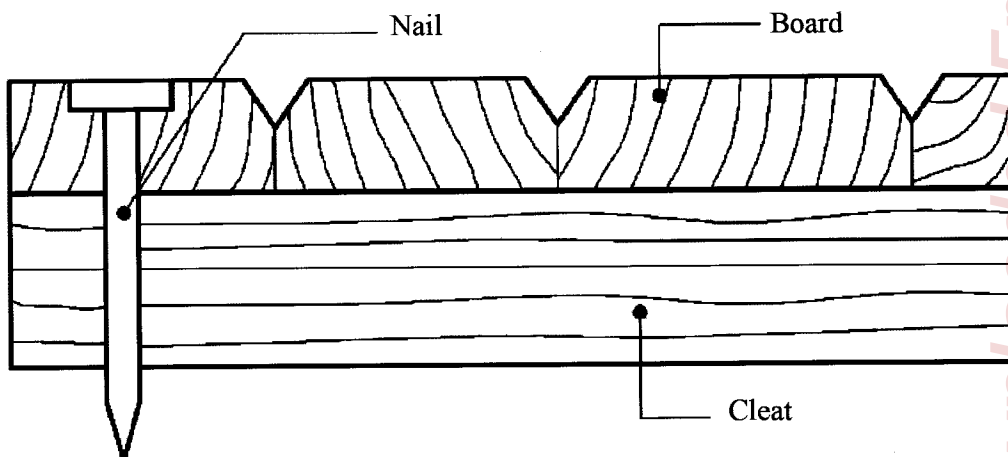

Figure 4
- (b) **Figure 4** shows two pieces of timber joined together with a nail.